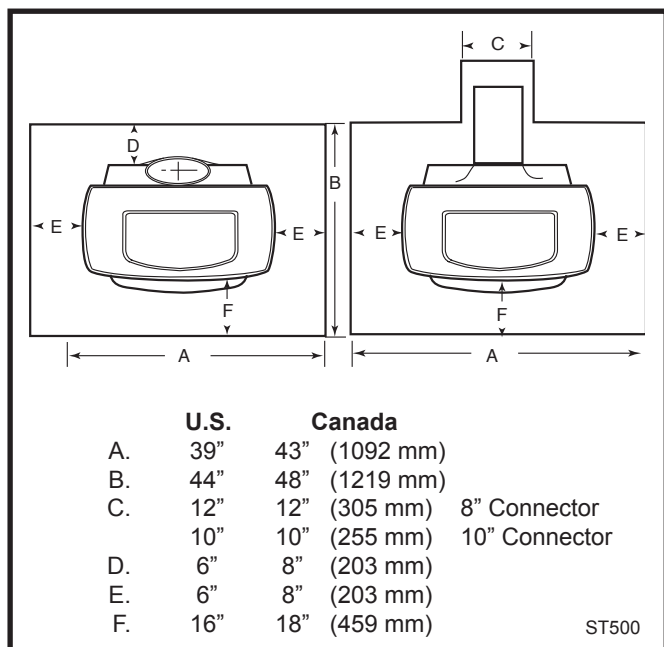

Fig. 12 Required floor protector dimensions for both top-and rear-exiting stove.
U. S. installations the floor protector is required under the stove and must extend at least 16" (not including the ash lip) from the front of the stove ("F", Fig. 12), and at least 6" from the sides and rear. ("D" and "E", Fig. 12) It must also extend under the chimney connector and 2" to either side. ("C", Fig. 12) For the 8" (203 mm) connector, the protector must be a minimum of 12" (305 mm) wide. For the 6" (152 mm) connector, the protector must be 10" (254 mm) wide. The protector must be centered under the connector.
In Canada: A noncombustible floor protector is required under the stove as well. The floor protector must extend 18" (457 mm) to the front ("F", Fig. 12), and 8" (203 mm) from the sides and rear. ("D" and "E", Fig. 12)
Floor protection also must extend under the chimney connector and 2" (51 mm) to either side. ("C", Fig. 12) For the 8" (203 mm) connector, the protector must be a minimum of 12" (305 mm) wide. For the 6" (152 mm) connector, it must be at least 10" (254 mm) wide. The protector must be centered under the connector.